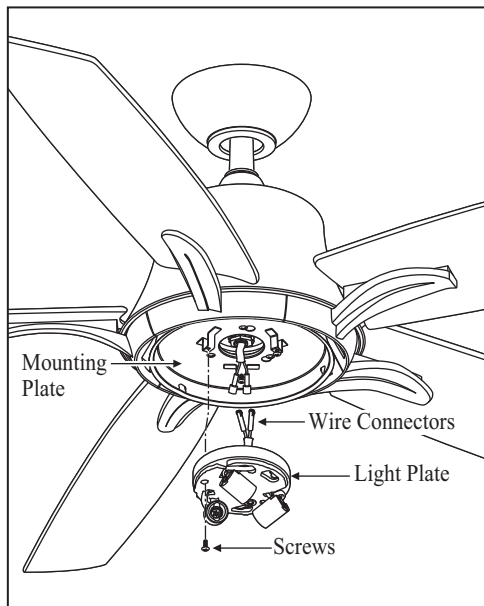

Figure 21
3. Place the key holes on the light plate over the 2 screws previously loosened, turn the light plate until it locks in place at the narrow section of the key holes. Secure by tightening the 2 screws previously loosened and the one previously removed. (Fig. 21)